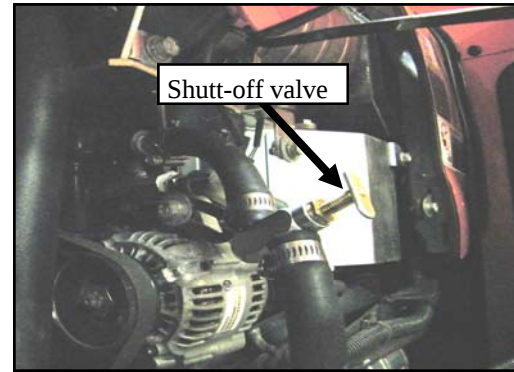

FIG. 2.7
- 2.7 Splice into the heater supply line and install the in-line shut-off valve with small hose clamps. The valve can be installed anywhere accessible in the heater supply line. It does not have to be installed where shown in figure 2.7.